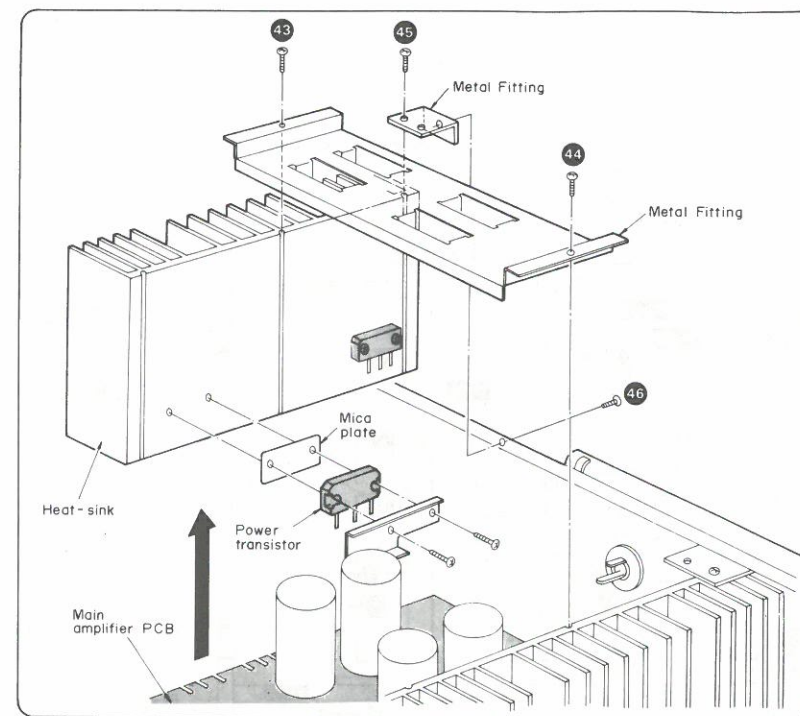

Fig. 10
4. Remove the 4 setscrews (Fig. 10 : 43 ~ 46) of the metal fitting which secures the electrolytic condenser. Then the metal fitting can be removed.
6. Remove the transistor along with the heat-sink from the printed circuit board as shown in Fig. 10.